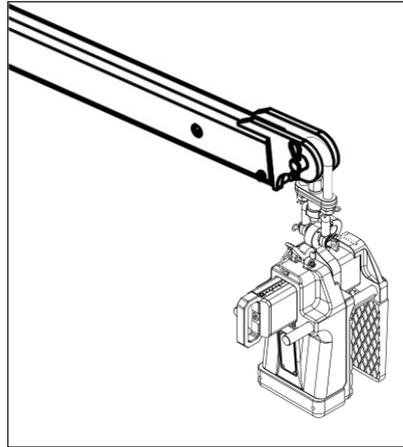

Figure 3.1
Step 3: Hook the Bison Lifter to a forklift boom (Figure 3.1).